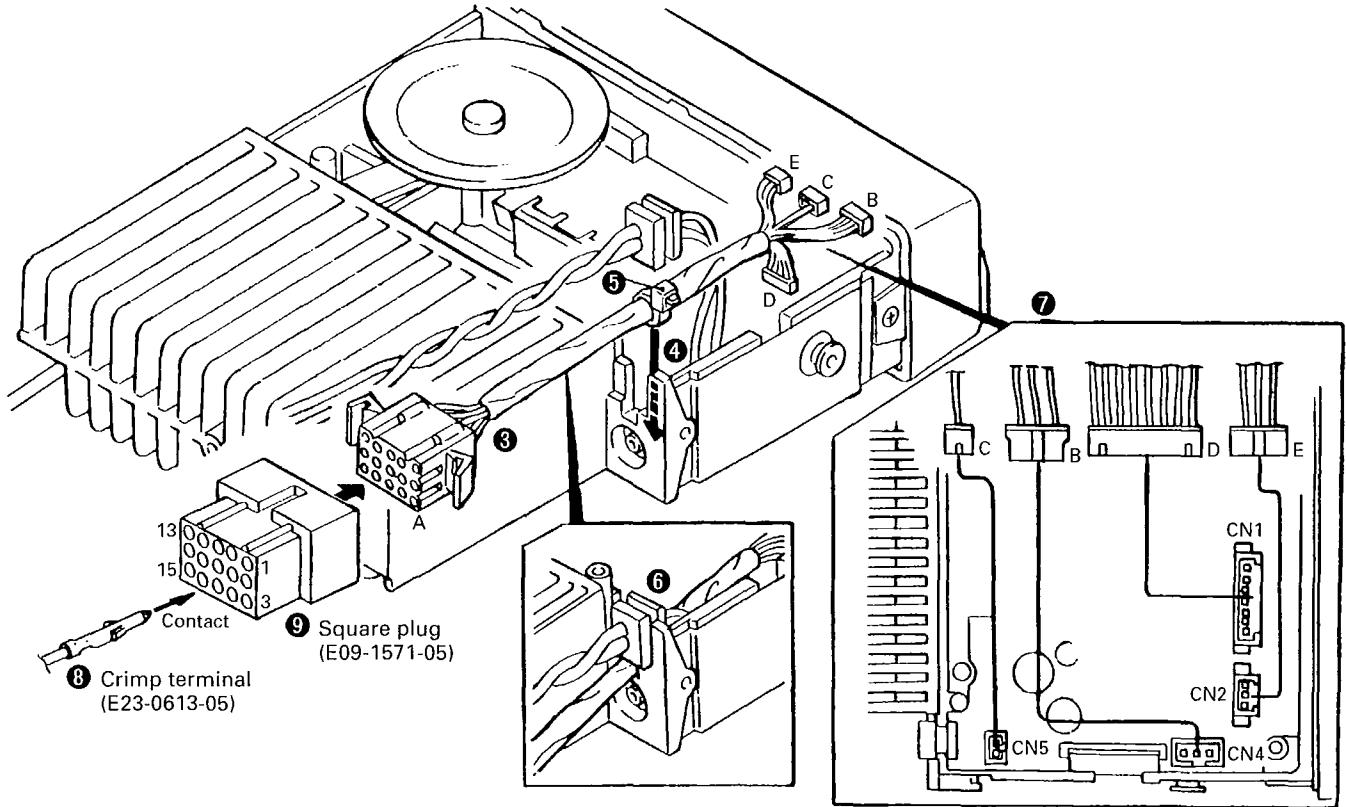

Fig. 2
4. Relocate the DC cord bushing in the chassis ( ⑥ ).
5. Connect the KCT-19 to the TX-RX unit (A/2) as shown in Figure 2 ( ⑦ ).
6. Connect the KCT-19 to the external accessory by inserting the crimp terminal ( ⑧ ) into the square plug ( ⑨ ), both of which are supplied with the KCT-19.